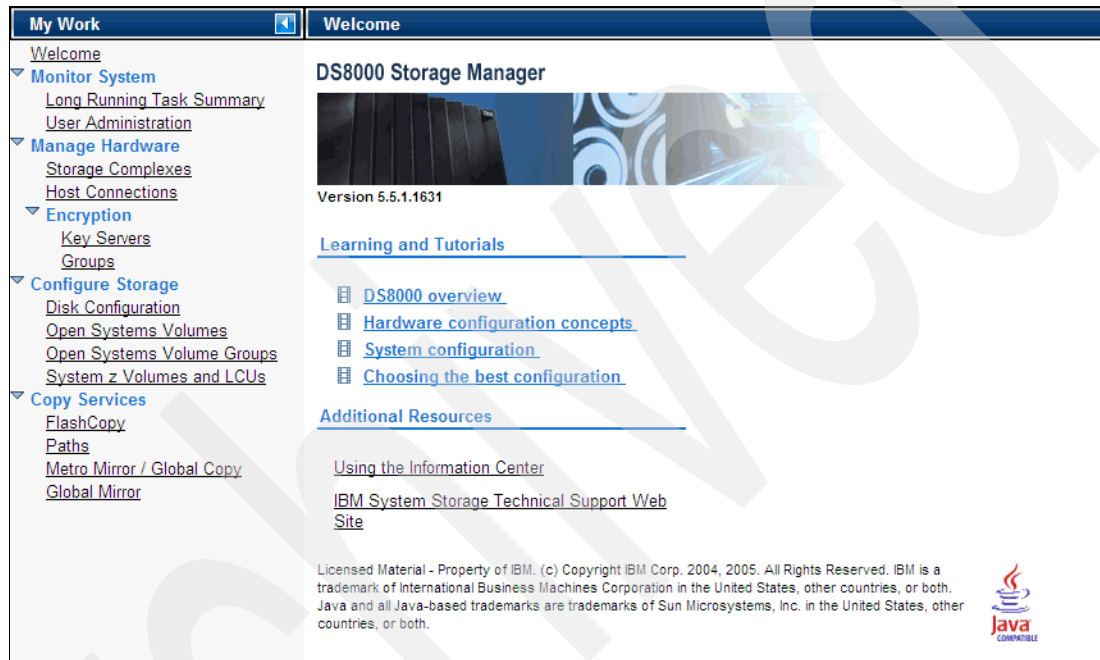

Figure 10-1 DS8700 Storage Manager GUI: Welcome window
1. Start the DS Storage Manager application. Log in using a user ID with administrator access. If this is the first time you are accessing the machine, contact your IBM service representative for the user ID and password. After a successful login, the DS8700 Storage Manager Welcome window opens. In the My Work navigation window on the left side, select **Manage Hardware** (Figure 10-1).